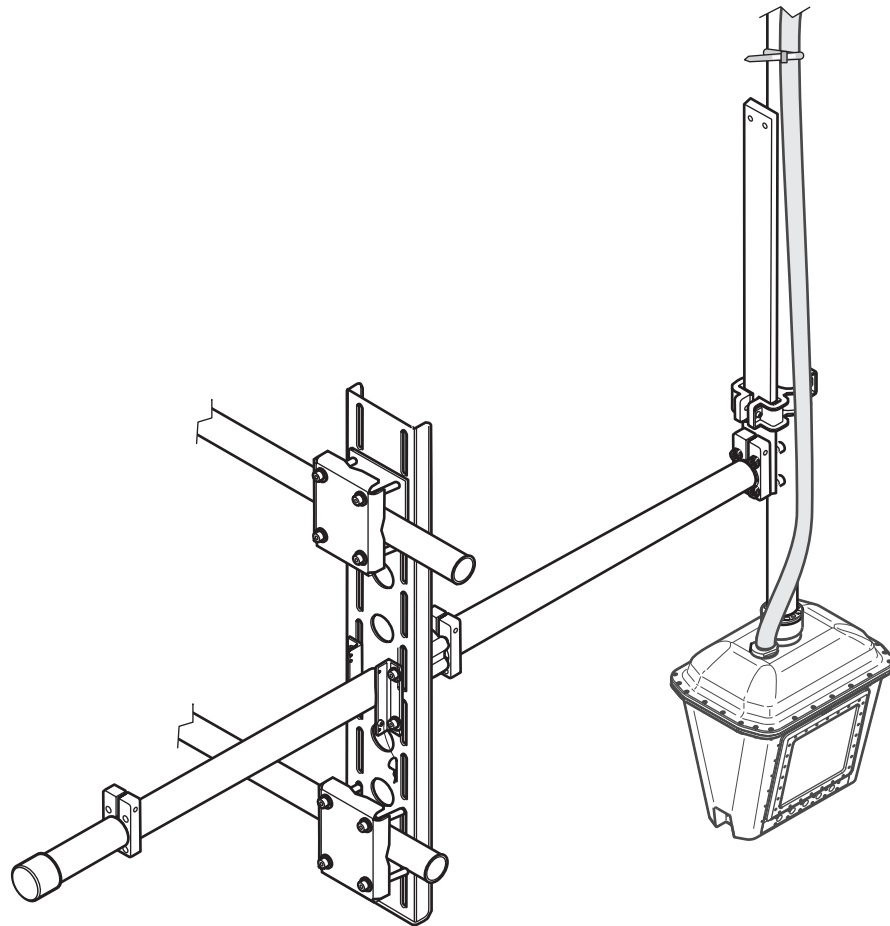

Figure 15 Filter Probe sc in the service position
2. Slide the mounting pipe onto the fastening lug using the bottom bracket (Figure 15 on page 13).